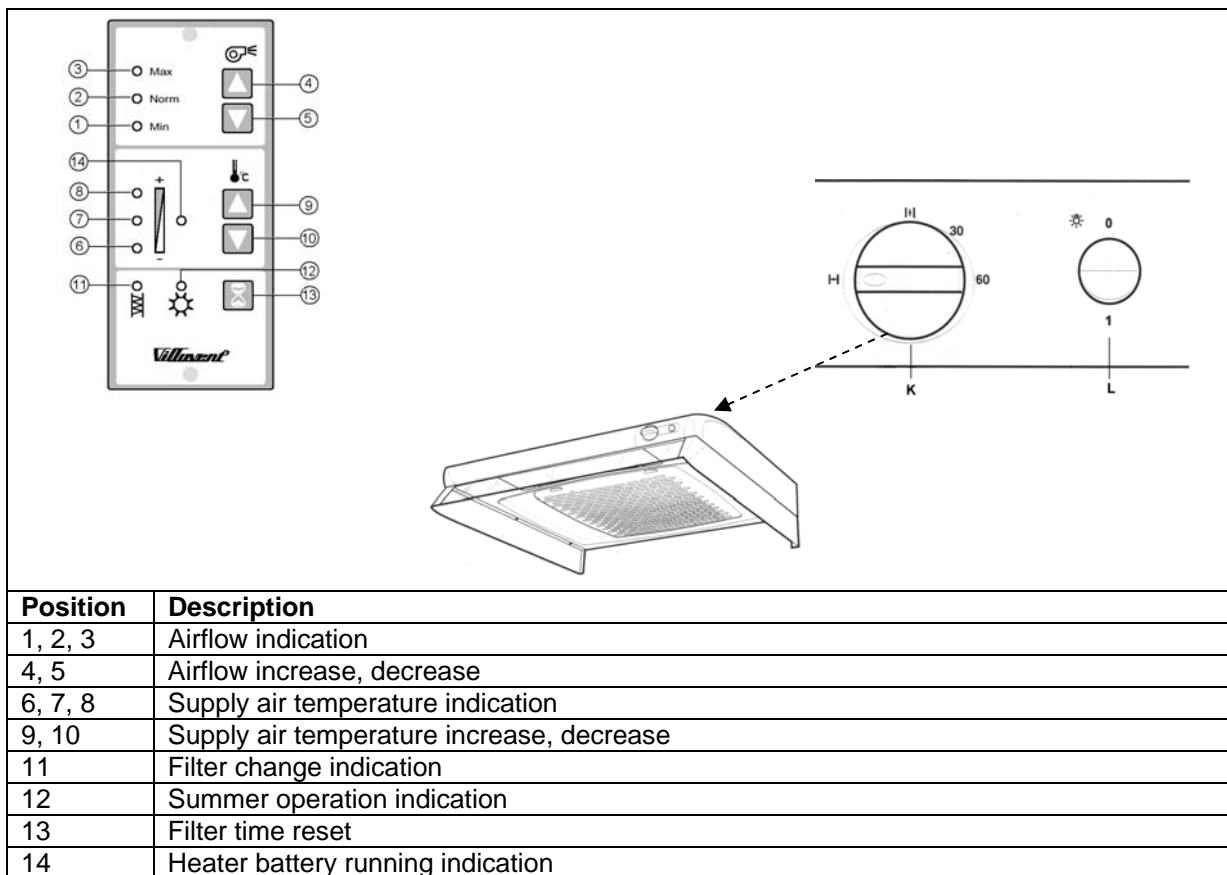

Fig 12
4. Chose operation time for filter (**fig. 12**). Standard factory setting is 9 months. This is sufficient in areas where the outdoor air has a satisfactory quality. If the outdoor air is polluted by exhaust from traffic, industry etc, filter change every 6 months is recommended. Even if the outdoor air quality is good, and the fresh air filter is not clogged, maximum recommended operation time for filters is 12 months (Smells and organic pollution will reduce the supply air quality). To increase or reduce the operation time for filters, press buttons (13) and (9) or (13) and (10) simultaneously. Setting is confirmed by flashing light in lamp (14) and constant light in:
- Lamp (6) for 6 months operation time between changing filter
- Lamp (7) for 9 months operation time between changing filter
- Lamp (8) for 12 months operation time between changing filter